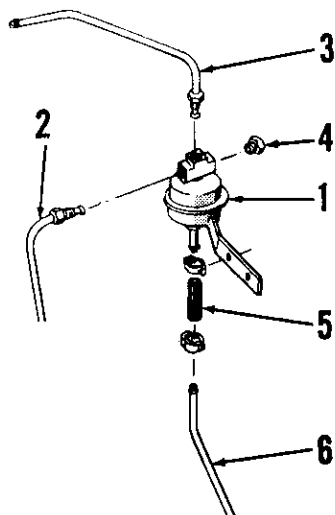
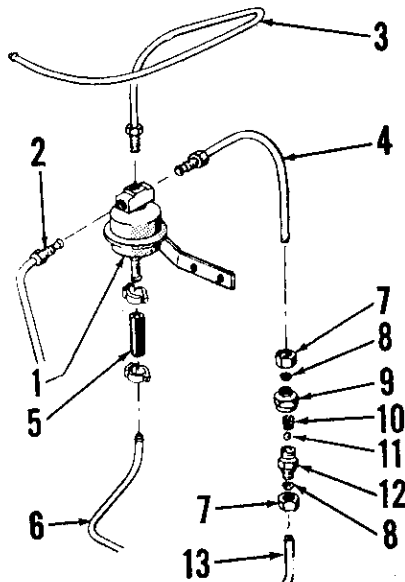

Fig. 144-View showing Thermostart reservoir and fuel line connections for models with C.A.V. fuel injection pump.
Fig. 145-View showing Thermostart reservoir and fuel line connections for models with Simms fuel injection pump.
Fig. 143—Cross-sectional view of diesel Thermostart unit (optional) that is located in intake manifold. Refer to Figs. 144 and 145 for fuel reservoir and fuel line connections.
162. Refer to Fig. 143 for cross-sectional view of the Thermostart unit which is located in the engine intake manifold. The fuel inlet (F) is connected to a small reservoir (see Figs. 144 and 145). In operation, turning the key switch to either "HEAT" or "HEAT-START" position connects Thermostart wire (W—Fig. 143) to battery heating the heater coil (HC) and ignition coil (IC). The hot coils react to pull the valve stem (VS) away from valve ball (VB) allowing ball to unseat and fuel to flow through the unit, where it is heated and ignited, and into the intake manifold.
For connecting fuel lines to Thermostart unit and reservoir, refer to Fig. 144 for models with C.A.V. fuel injection pump or to Fig. 145 for models with Simms fuel injection pump. NOTE: When diesel fuel lines have been disconnected, always make certain that fuel is present at the Thermostart fuel inlet (F—Fig. 143) before tightening the connection at that point. Any attempt to operate the Thermostart unit without fuel available may cause failure of the unit allowing fuel oil to leak into the intake manifold.